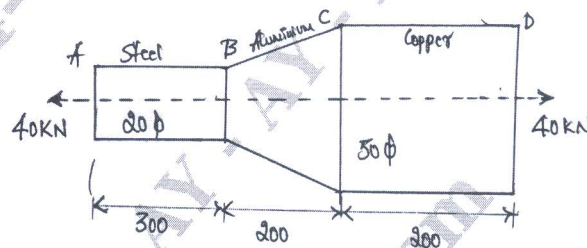

Fig.Q1(b)
- b. A stepped bar is subjected to an external loading as shown in Fig.Q1(b). Calculate the change in the length of bar. Take $E = 200\text{GPa}$ for steel. $E = 70\text{GPa}$ for Aluminum and $E = 100\text{GPa}$ for Copper. (10 Marks)